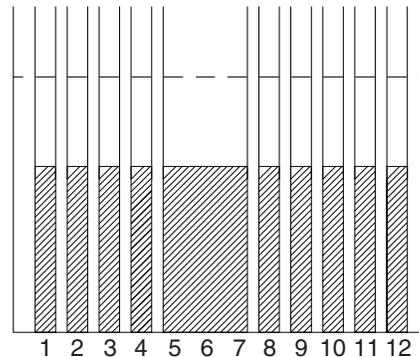

Figure 6-35. Print Head Cable Connector
– Disconnect the print head cable from J5 on the printer card. See Figure 6-38 on page 6-65 for the locations of the printer card connections. See Figure 6-35 for the locations of the print head cable connector strips.